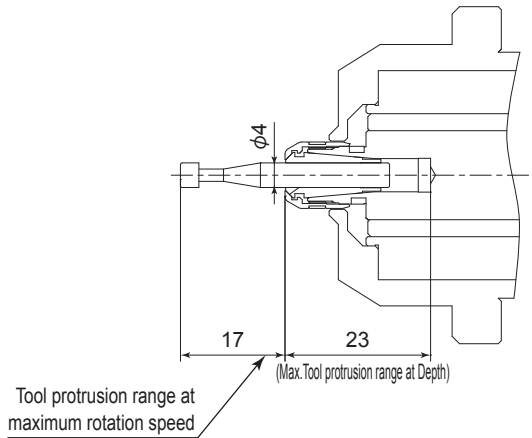

Fig. 20
- (1) The proper surface speed for general grindstones is 10 - 30m / s.
- (2) Do not exceed 17mm of Tool the protrusion depth range at Depth for mounted grindstones and cutting tools when using at the Maximum Rotation Speed (160,000 min⁻¹) (rpm) (Fig.20). If a total length of a grindstones and cutting tools are longer than 40mm, cut off a grindstones and cutting tools before use.
- (3) If the overhang must exceed 17mm, reduce the Air Turbine speed in accordance with Table. 2.
- (4) Dress the grindstone prior to use.
- (5) Do not use cutting tools with bent or broken shanks, cracks or excessive run-out.
- (6) For grinding, the maximum depth of cut should not exceed 0.01mm radially or axially. Reciprocate the tool several times after each pass to eliminate tool pressure.
- (7) Always operate cutting tools within the allowable recommended speed of the cutting tools. Use of a cutting tool outside of the allowable speed of the cutting tools could cause damage to the spindle and injury to the operator.
- (8) Keep the cutting tool shank, Collet Nut and Collet clean. If contaminants are allowed to remain in the collet or collet nut, excessive run-out will cause damage to the cutting tool and or spindle.
- (9) Do not strike or disassemble the Air Bearing Turbine Spindle.
- (10) Do not apply excessive cutting force as to cause more than a 5% decrease of the rotation speed.
Table. 2 Use this Maximum Rotation Speed Table when exceeding the " Range of Tool Overhang " recommendations (Refer to Fig. 20).